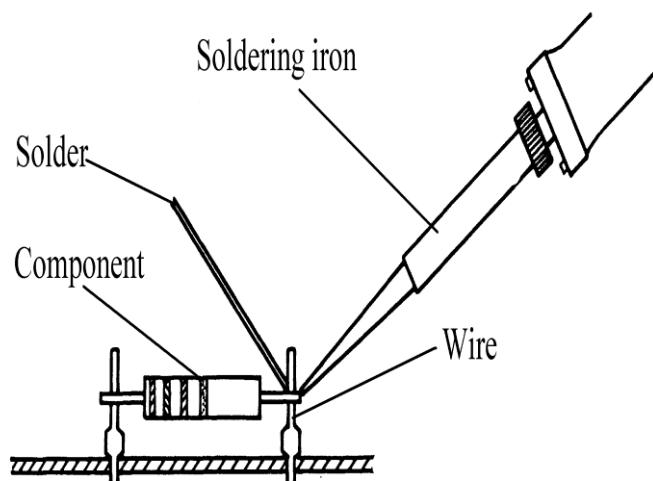

Figure 1
Apply the heated tip of the soldering iron to the connection to be soldered so that maximum heat is transferred. The connection must not be overheated. (See Fig. 1).
- Apply solder to the connection when the temperature of the joint is high enough to readily melt the solder (Fig. 1).
- Hold the soldering iron in a position to allow the solder to be applied directly to the heated wire and terminal (Fig. 1).